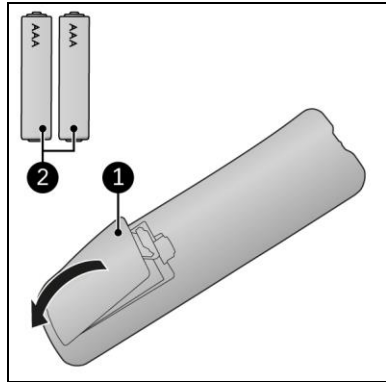

Figure 14
4. Remove the cover (Figure 14, pos. 1).
6. Insert two batteries (AAA 1.5 V) (Figure 14, pos. 2) as indicated in the battery compartment. Make sure to insert the batteries correctly.